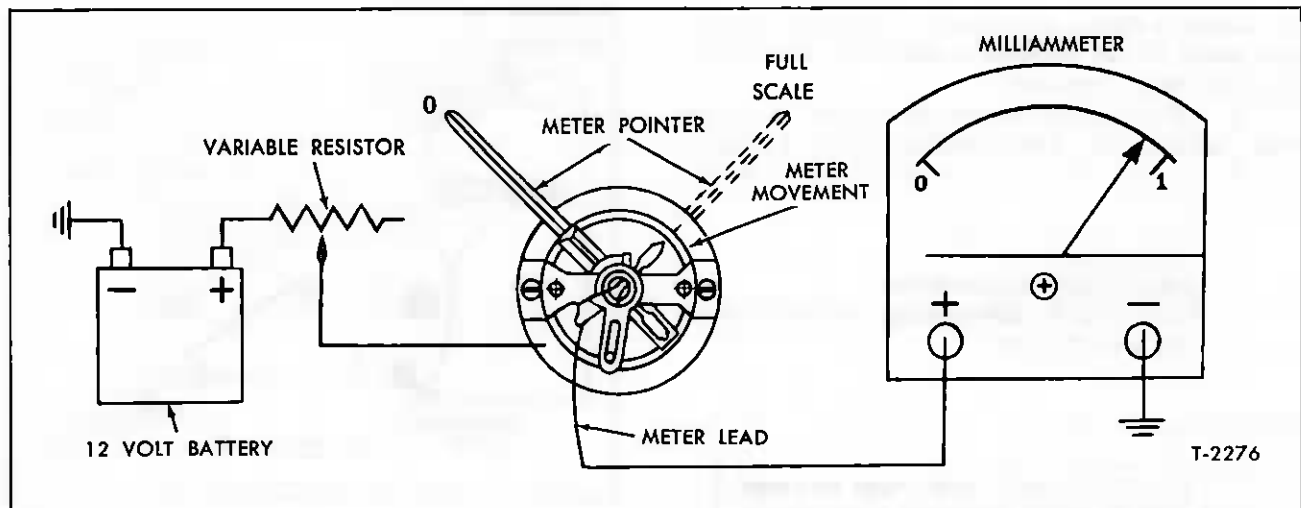

Figure 15—Speedometer Meter Movement Test Schematic
METER MOVEMENT (Fig. 15)
2. Connect battery, variable resistor, meter movement and milliammeter as shown in figure 15.